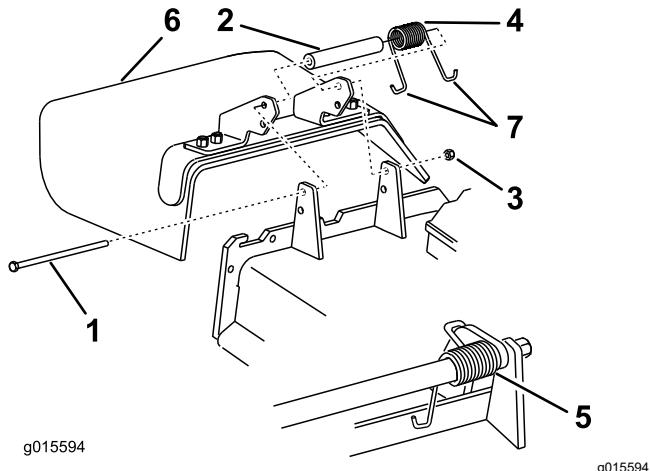

Figure 89
1. Remove the locknut, bolt, spring, and spacer holding the deflector to the pivot brackets (Figure 89).
2. Remove the damaged or worn grass deflector (Figure 89).
**Note:** Make sure that 1 J-hook end of the spring is installed behind the deck edge before installing the bolt as shown in Figure 89.
6. Place 1 J-hook end of the spring around the grass deflector (Figure 89).